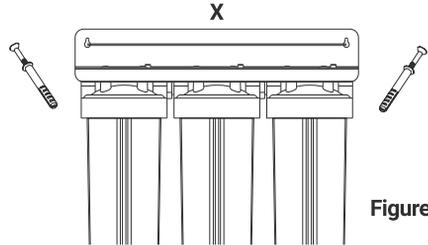

Figure 4
Step 3: Fix the whole house filter (Figure 4)